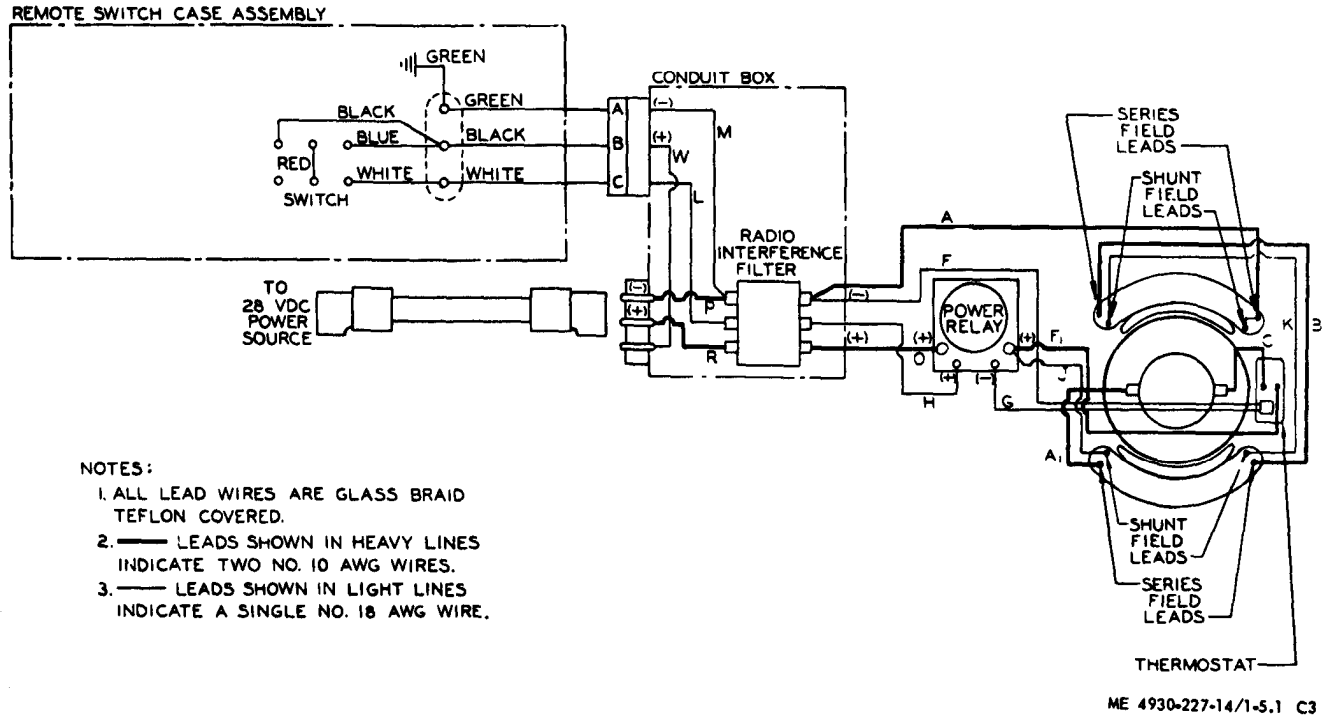

Figure 1-5.1. Practical wiring diagram
(8) *Wiring diagram.* A practical wiring diagram of the electrical system is illustrated in figure 1-5.1.